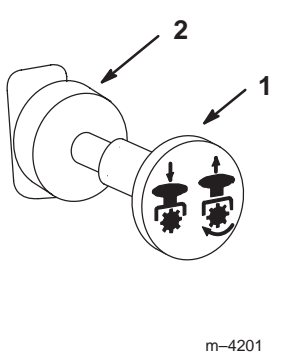

Figure 18
3. Move the PTO (power take off) to the off position (Fig. 18).